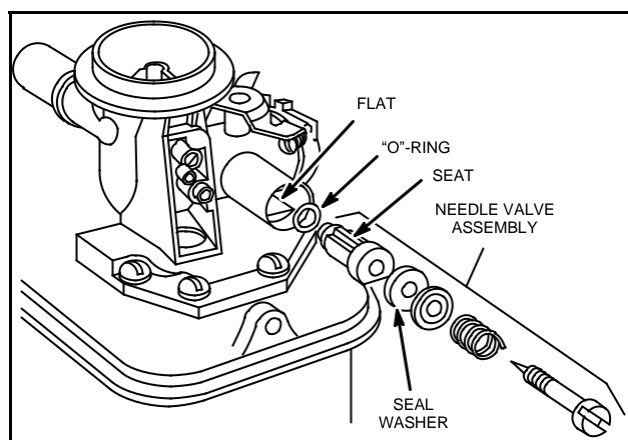

Fig. 168 - NEEDLE VALVE ASSEMBLY PRESS-IN TYPE
2. Turn needle in until large seal washer just touches needle seat, Fig. 168.
4. Install needle valve as an assembly being sure flat on valve seat lines up with flat in carburetor body, Fig. 168.
**NOTE:** On later carburetors, a slot was added to top of needle valve assembly bore to line up with rib on needle valve assembly, Fig. 168.